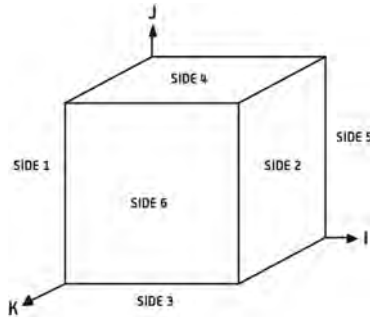

Figure 31
1. Select the side of the model to which you wish to apply the symmetry boundary, using the “side” subcommand. PZFlex defines the sides of the model as shown in Fig. 31, where the box defines the entire grid geometry. Selecting Side 2 selects all the nodes on the maximum i-value of the geometry.